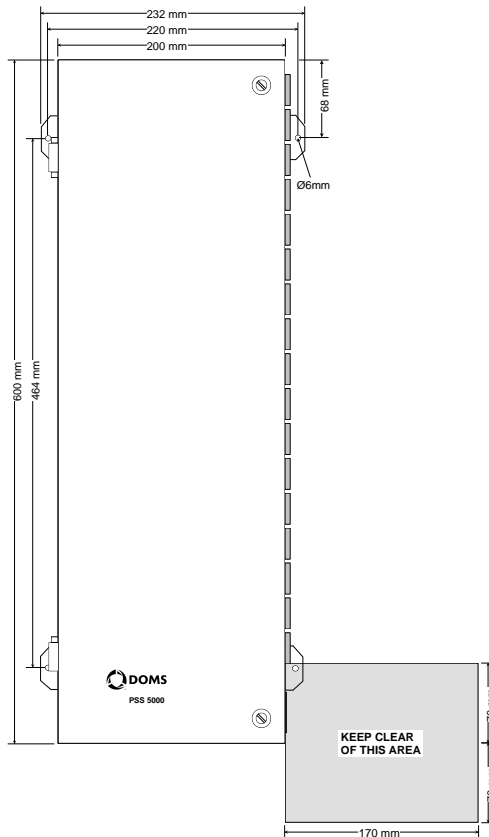
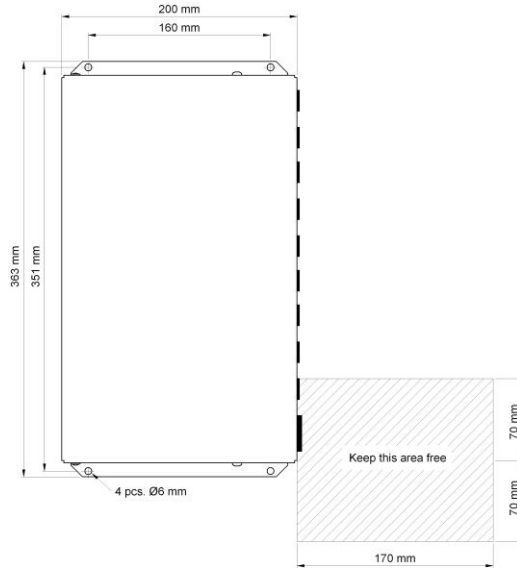

Figure 1 : Standard system placement
Figure 2 : Compact system placement
1. In a suitable location, make sure that there is enough room for the cabinet and allow space for the cable connections on the right-hand side of the cabinet. (For Standard systems see Fig. 1 and for Compact systems see Fig. 2.)